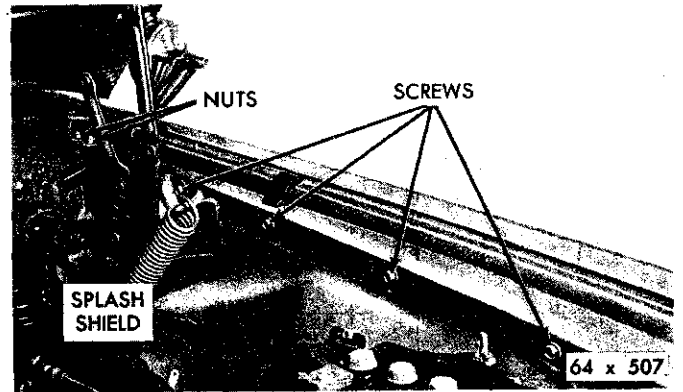

Fig. 5—Fender to Cowl Mounting
- (1) Drain the radiator and remove the battery.
- (2) Remove the front bumper and the hood assembly.
- (3) Disconnect the radiator hoses, the head lamp wires and the horn wires.
- (4) Remove the hood hinge to the fender mounting screws (one each side).
- (5) Remove the upper nuts and studs (four at each side) attaching the fender to the cowl panel (Fig. 5).